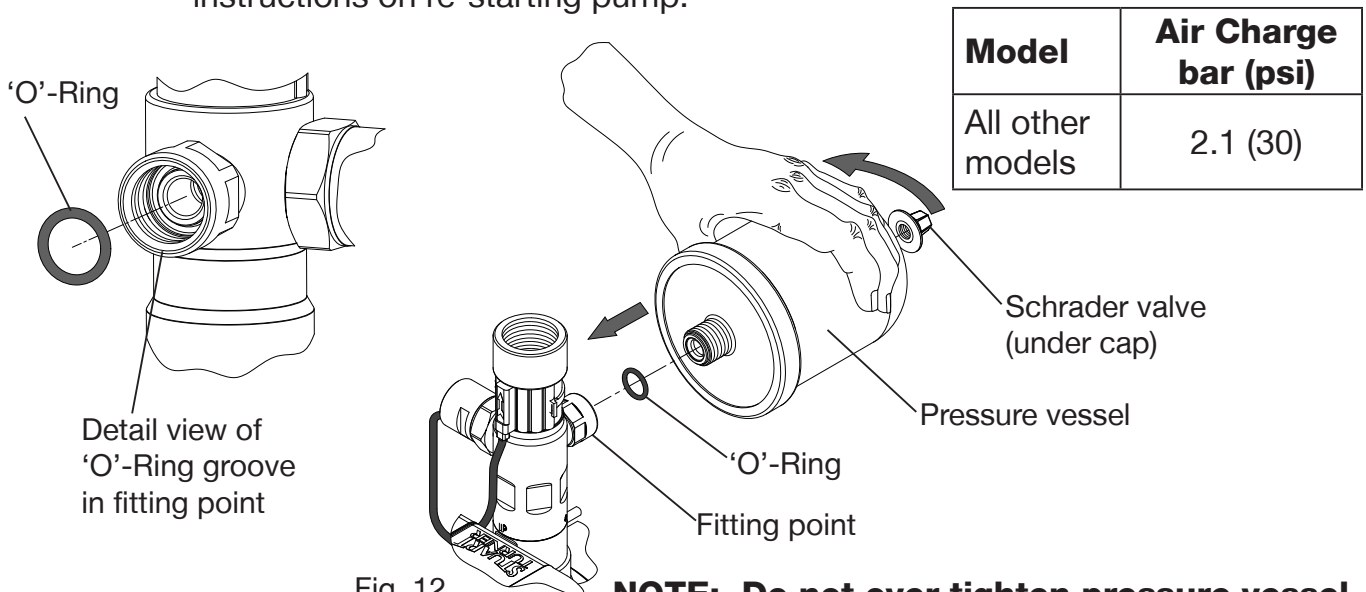

Fig. 12
- e) Check air charge at Schrader valve (Fig. 12) using a tyre pressure gauge.
- f) Replenish air charge if required by injecting air into the vessel via the Schrader valve using a car or bicycle pump (Fig. 12).